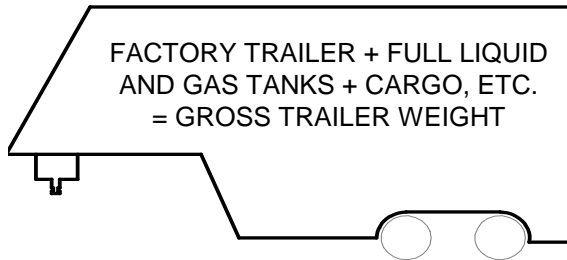

Figure 2
- Towing vehicle must have a manufacturer’s rated towing capacity equal to or greater than the gross trailer weight (dry weight of the trailer plus payload of the trailer). (Figure 2)
Gross Trailer Weight (**Figure 2**): _____